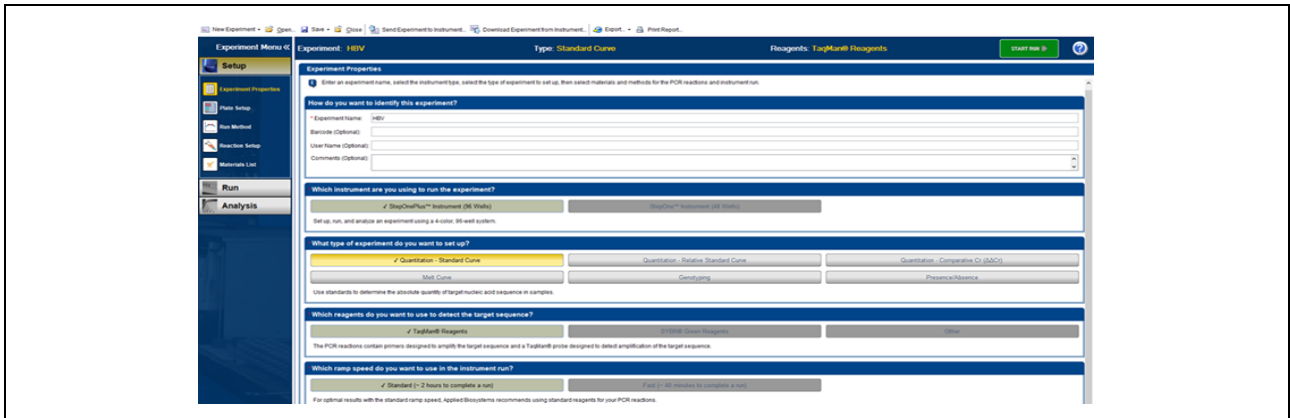

Figure 1: Set up test is started from a New experiment.
- Upon launching the ABI Step One/Step One Plus software, open a new experiment window by selecting "New Experiment," and fill in the required information and select the intended options as depicted in Figure 1.